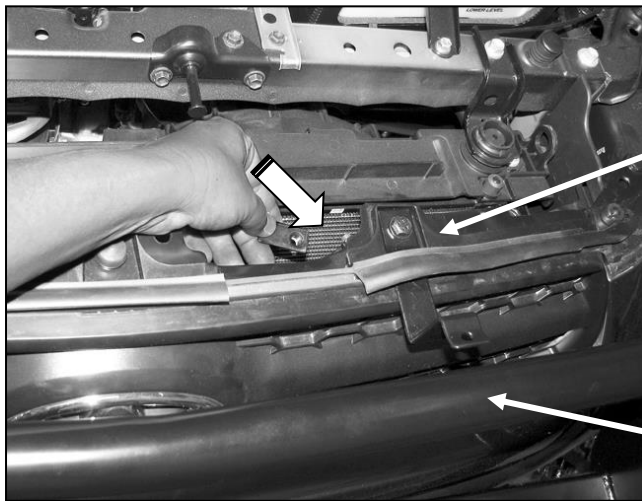

Fig 5B
Slide the Top Support Bracket under the rubber hood seal, **(Figure 5C)**. Line up the hole in the Bracket with the hole in the grille crossmember. Insert (1) 6mm Nut Plate, **(Figure 5B)**, down and into the opening behind the grille and hold it up against the underside of the steel crossmember, **(Figure 5C)**.